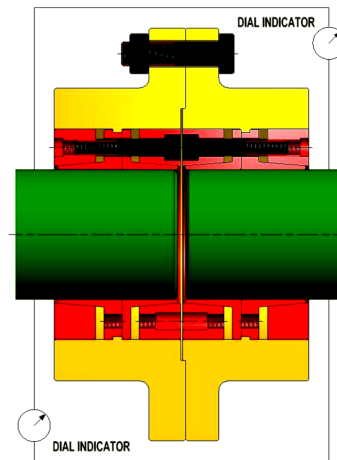

Fig. 7 Flange Coupling installed – check of runout
17. Using dial indicators per Figure 7, make sure that runout values are within 0.070 mm TIR (total indicator reading) for every 100 mm shaft diameter.